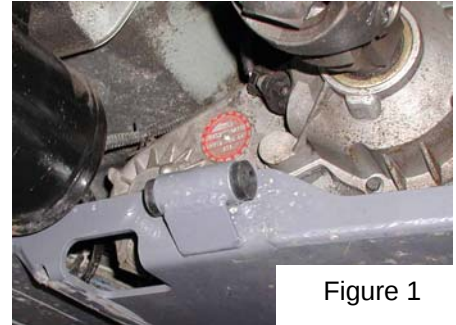

Figure 1
**Step 3a:** Prepare Anchor Point (Tummy Tucker™ installations). This step assumes that you have or will be using/installing a Tummy Tucker skid along with your Stinger. Refer to the separate instructions for your TT kit and install it before proceeding with the Stinger. If you're ready now, insert the two rubber 'pivot bushings' into the tube mounted on the back edge of the TT (**figure 1**)